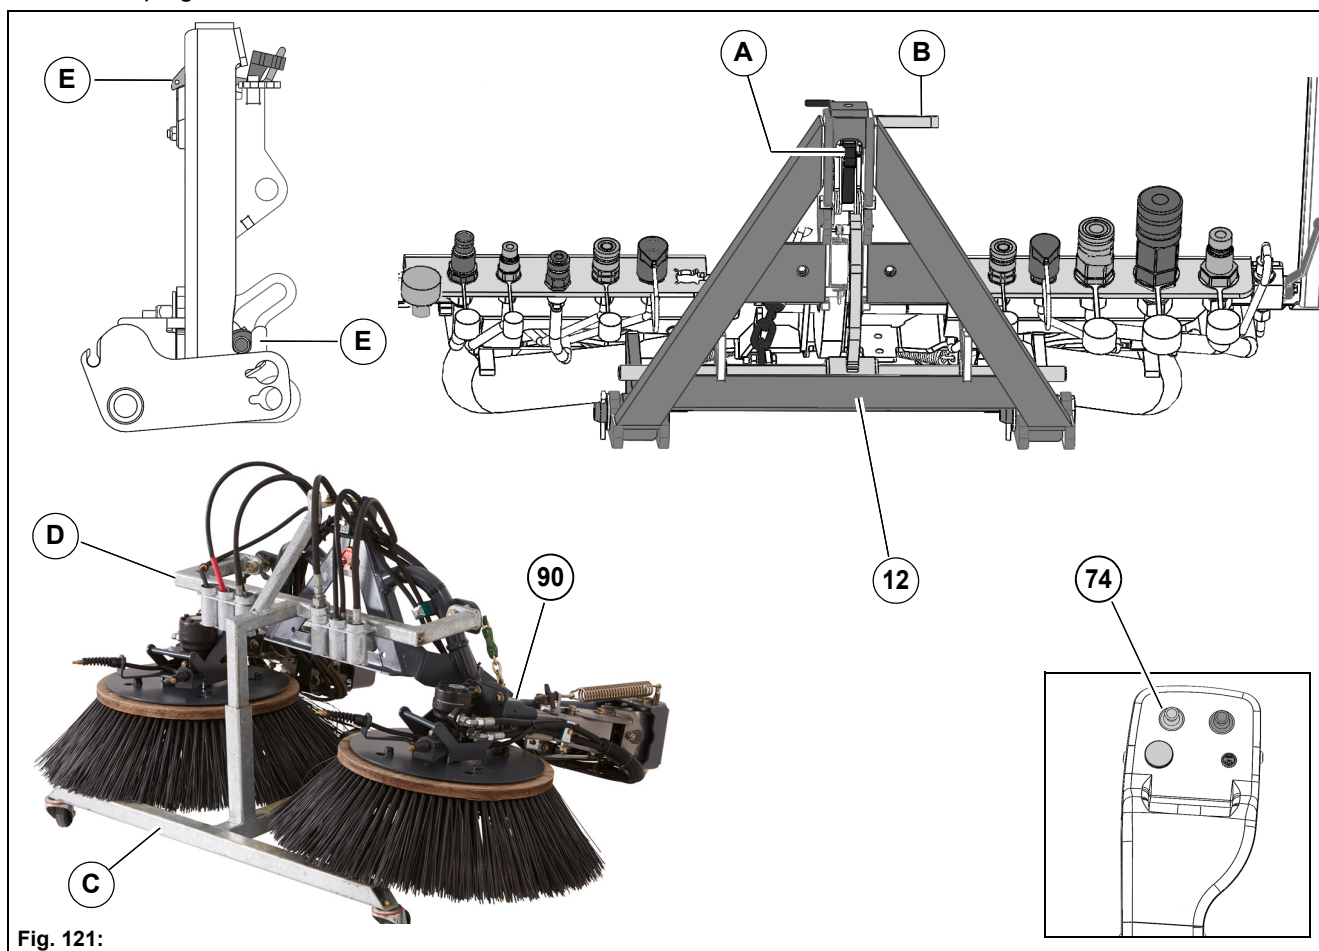

Fig. 121:
1. Unlock the locking hook **Fig. 121-A** and locking rod **Fig. 121-B** on the front tool carrier **Fig. 121-12**. Lower the front tool carrier with the joystick **Fig. 121-74**.
2. With the trolley **Fig. 121-C** (optional), align the sweeping unit **Fig. 121-90** centrally and in alignment with the front tool carrier.
5. Lock the sweeping unit with the locking hook and locking rod. Check the backlash on the locking hook, see **Fig. 121-E**, adjust if necessary with elongated holes.
6. Push down the upper part **Fig. 121-D** of the trolley and pull it out from the sweeping unit.